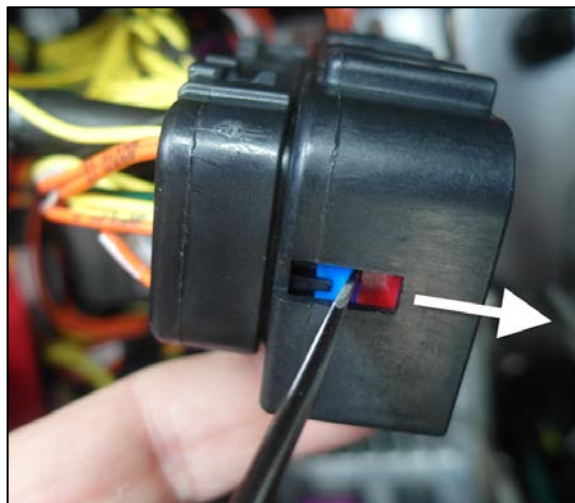

Figure 36
72. With a small flat screwdriver, move the red lock on both sides of the connector (Figure 36).